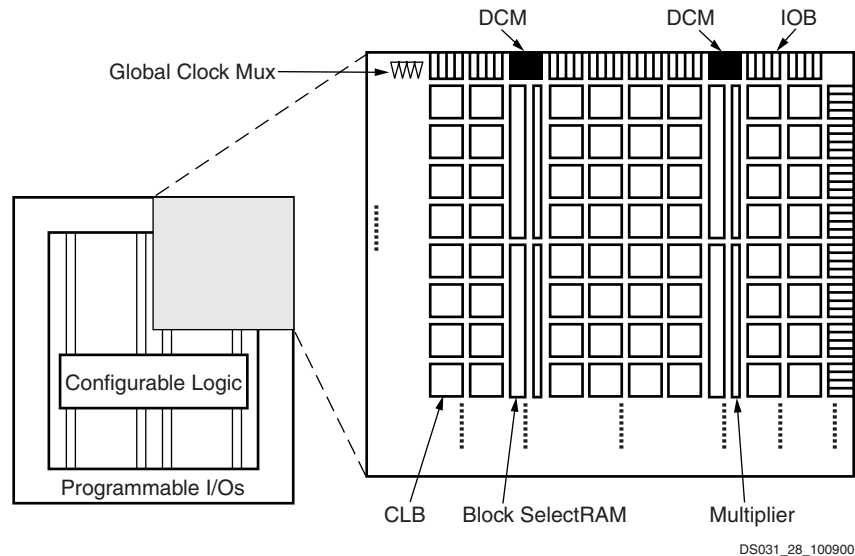

Figure 1: Virtex-II Architecture Overview
Virtex-II devices are user-programmable gate arrays with various configurable elements. The Virtex-II architecture is optimized for high-density and high-performance logic designs. As shown in **Figure 1**, the programmable device is comprised of input/output blocks (IOBs) and internal configurable logic blocks (CLBs).
2. Output timing is measured at 50% V_{CC} threshold with test setup shown in Figure 1. For other I/O standards, see Table 19.